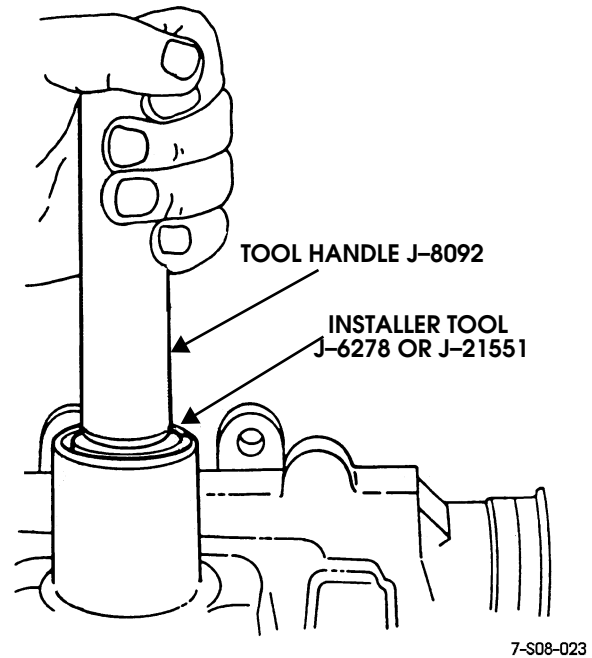

Figure 8-50: Pitman Shaft Bearing Installation
2. Install bearing in gear housing with handle J-8092 and installer J-6278 or J-21551 (Figure 8-50).